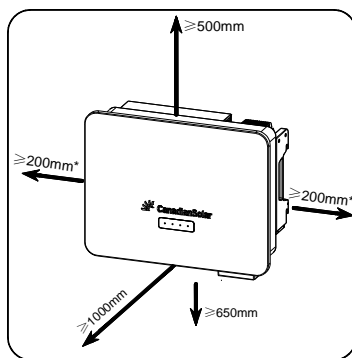

FIG 3-3 Single installation space
1) Reserve enough clearance around the inverter to ensure sufficient space for heat dissipation, shown as FIG 3-3. (Under the premise of ensuring installability, the gap between the left and right sides of the inverter can be reduced to 200mm, and it is recommended to be  $\geq 500$ mm.)